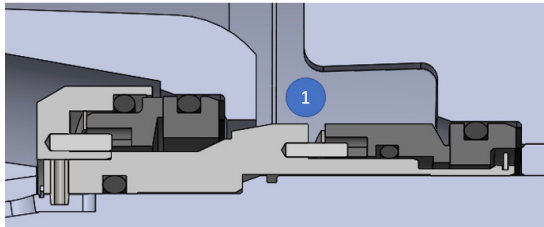

Figure 4. Area to Pressurize
- Immediately after installing the seal, pressurize the bearing housing (Area 1 in Figure 4) with air to ensure the static face is properly seated. The motor housing can only be pressure tested after the cooling chamber has been checked and the seal.